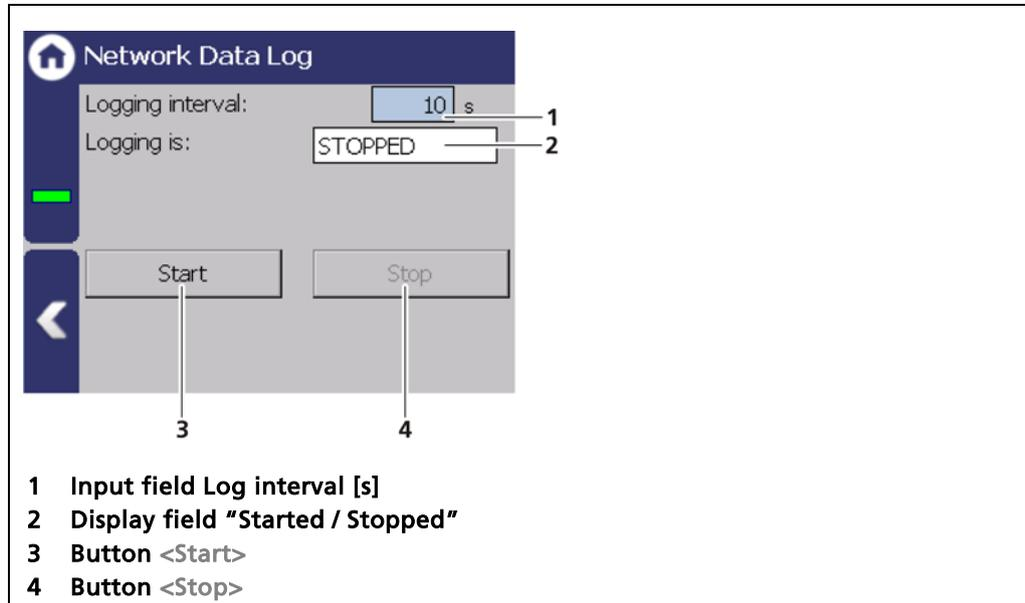

Fig. 120 Network Data log
1. Click on the button <Stop> (Fig. 120, item 4) to stop the data log process.
2. Click on the input field "Logging interval" (Fig. 120, item 1) and enter the time in seconds.
4. Click on the button <Start> (Fig. 120, item 3) to start the data log process.
1. To transfer the data, the logging must be "STARTED" (Fig. 120, item 2).